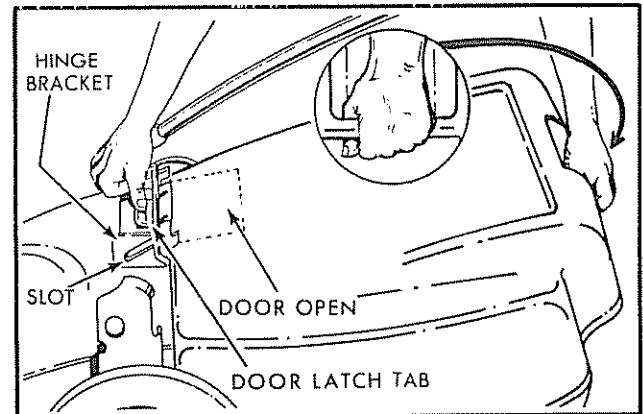

FIG. 10
2. Depress the door latch tab and slide the frame into position at the end of the slot (See Fig. 10).
4. To remove grass catcher, stop blade, lift up on back of grass catcher with one (1) hand and press down on the door latch tab with the other hand (See Fig. 10).